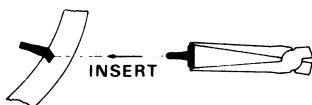

FIGURE 8
3. Using long-nose pliers, grab the head of the locking pin and insert into hole located on the side of the smoke alarm. See Figure 8.